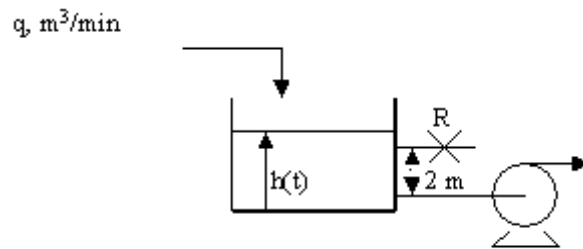

Figure 1:
1. In the following liquid level system as shown in figure1, the pump removes water at a constant rate of $10 \text{ m}^3/\text{min}$ and this rate is independent of head. The cross sectional area of the tank is 1 m^2 and the resistance is $0.5 \text{ m/m}^3/\text{min}$. Derive the transfer function $H(S)/Q(S)$ when